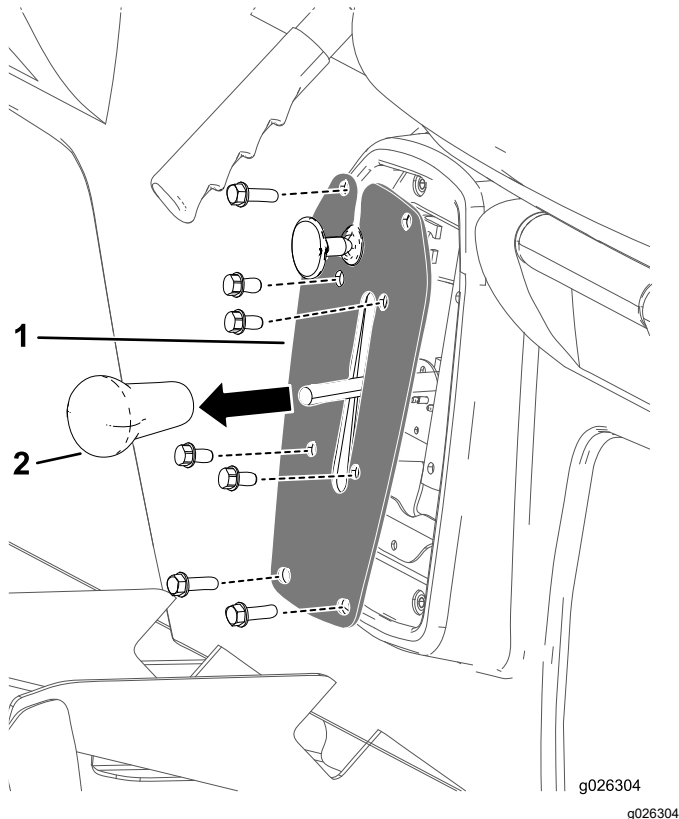

Figure 39
1. Remove the knob from the gear-shift lever (Figure 39).
2. Remove the 4 bolts that secure the shifter plate to the shifter bracket (Figure 39).
3. Remove the 4 bolts that secure the shifter plate to the seat base and remove the shifter plate (Figure 39).
4. Thread the knob from the gear-shift lever and tighten the knob by hand (Figure 39).